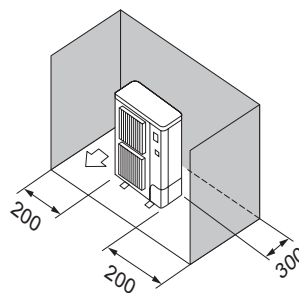

Fig. 4-8
- Obstacles at rear and sides only (Fig. 4-8)